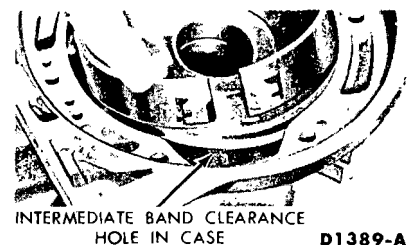

FIG. 44—Removing or Installing Intermediate Band
4. Remove the intermediate and low-reverse band adjusting screws from the case. Rotate the intermediate band to align the band with the clearance hole in the case (Fig. 44). Remove the intermediate band from the case. If the intermediate band is